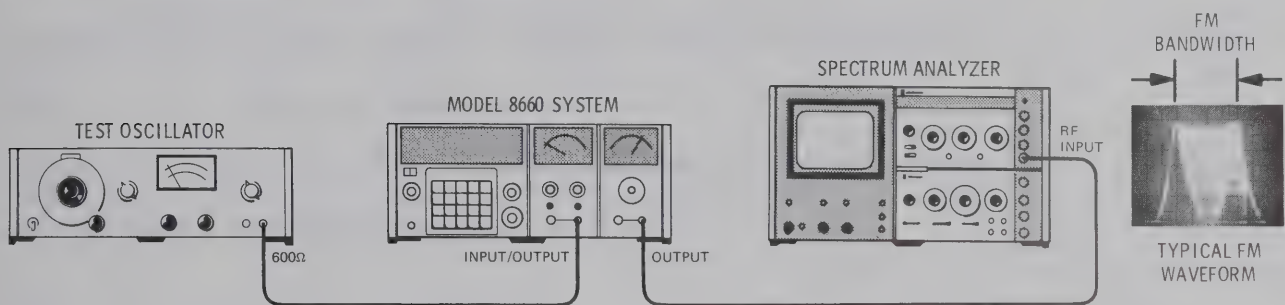

Figure 4-5. FM Input Level and Rate Test Setup
1. Connect the equipment as shown in Figure 4-5.
6. Verify the 100 kHz peak deviation on the Spectrum Analyzer display as shown by a display of $200 \pm 10 \text{ kHz}$. (See Figure 4-5 for the typical waveform).